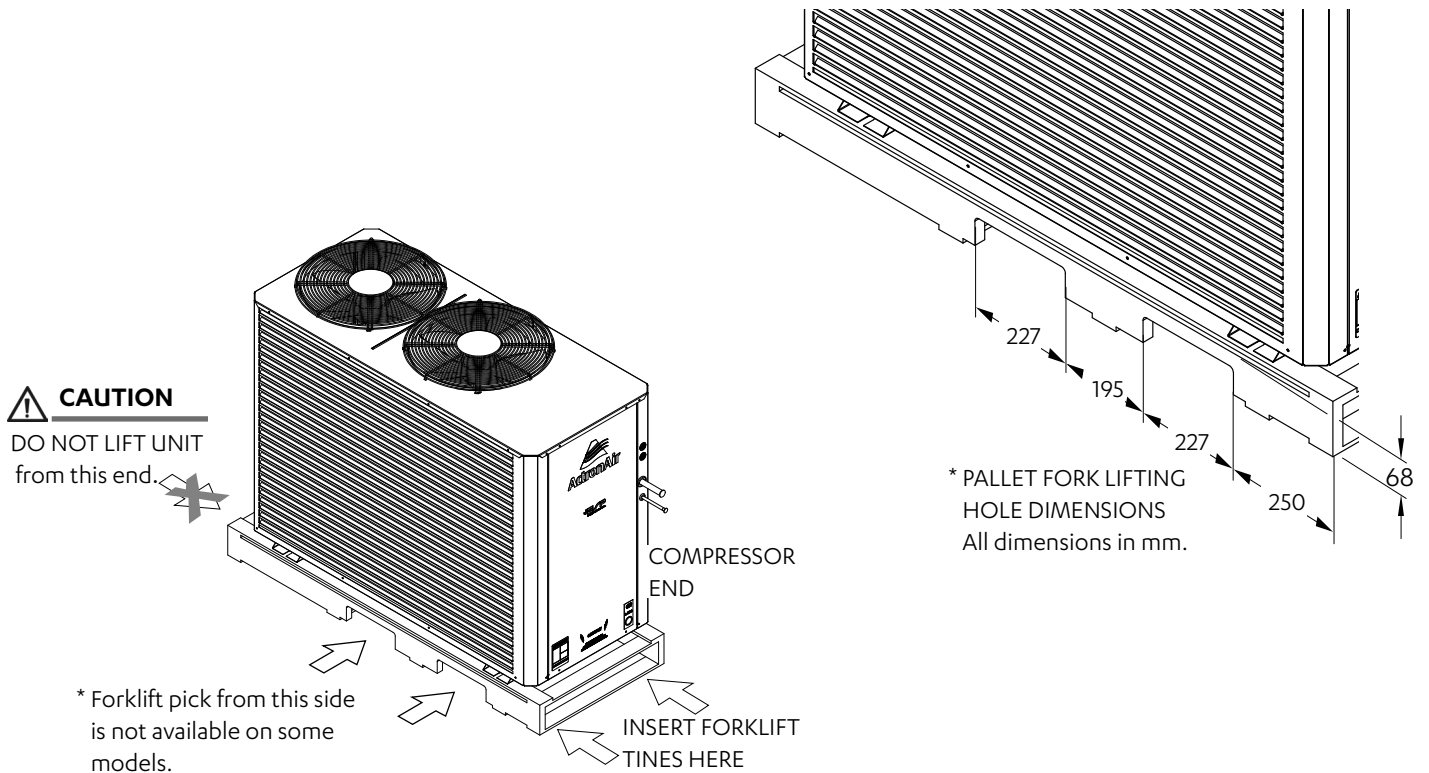

Fig. 2
1. To move the unit around with a forklift, insert the fork tines through the pallet, as shown in Fig. 2.